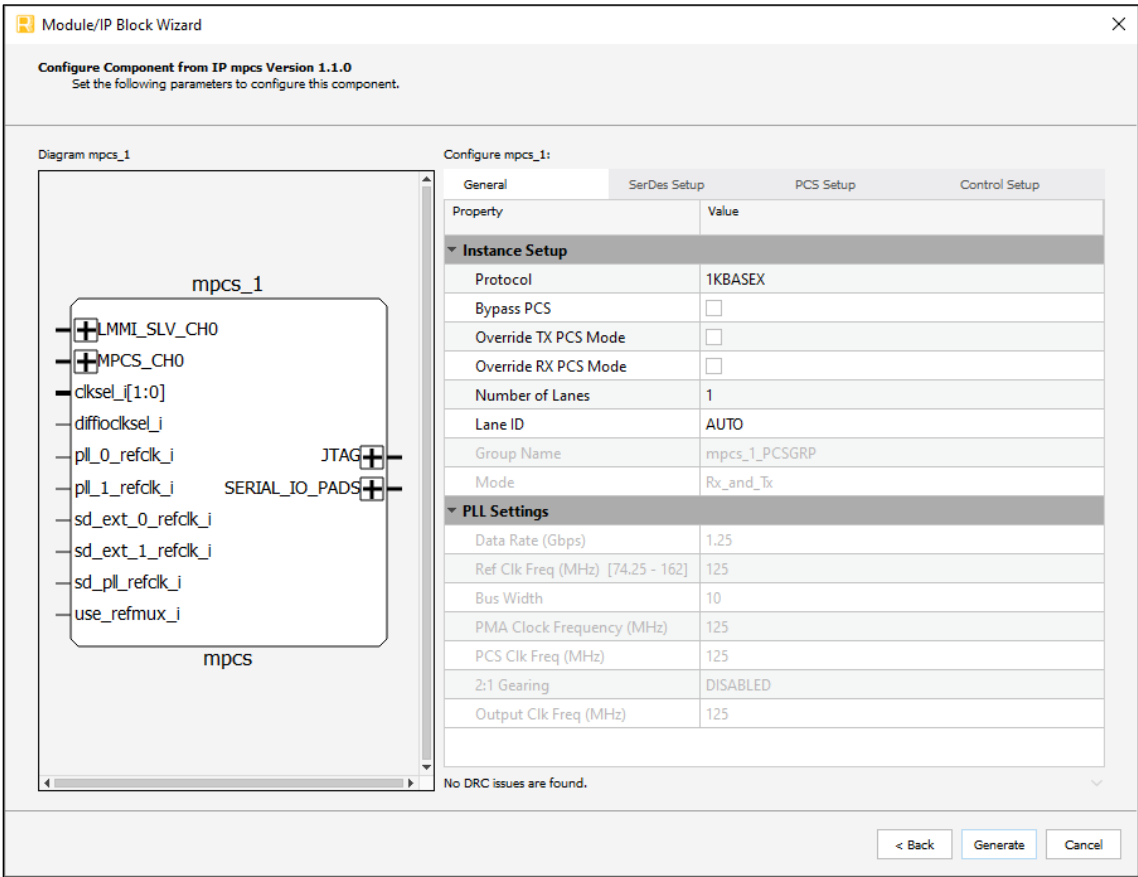

Figure 7.2. Configure User Interface of MPCS Module
4. In the module dialog box of the **Module/IP Block Wizard** window, customize the selected MPCS module using the drop-down menus and check boxes. As a sample configuration, see Figure 7.2. For configuration options, see the Module Parameter Description section.